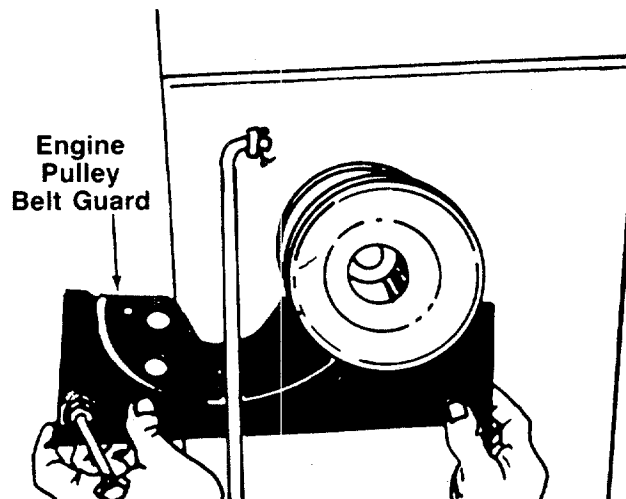

FIGURE 24.
- Remove the engine pulley belt guard by slipping it back and to the right. See figure 24.